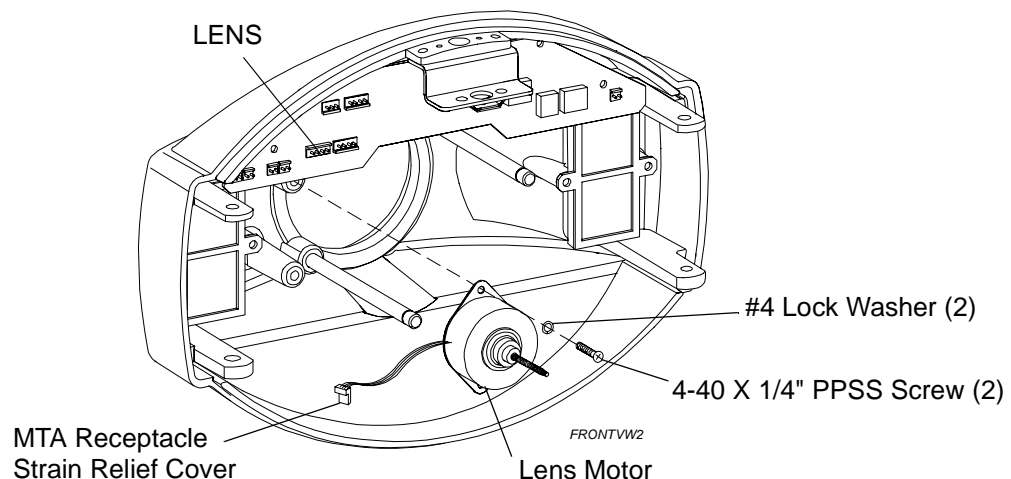

Figure 2-13: VL6 Luminaire Lens Motor Replacement
- Step 4. At yoke termination PCB, disconnect motor wires MTA receptacle at LENS. Figure 2-13.